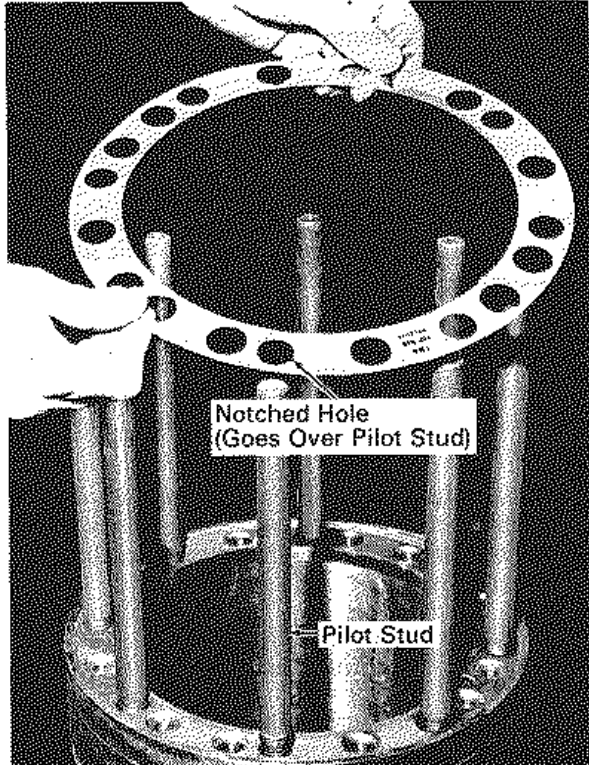

Fig. 5-19 - Head-To-Liner Gasket
55. Install the head-to-liner gasket, Fig. 5-19, making sure that the proper gasket is used and that the gasket is placed over the liner studs with the part number and "TOP" stamp facing up, and the notched ear of the gasket is placed over the pilot stud of the liner.